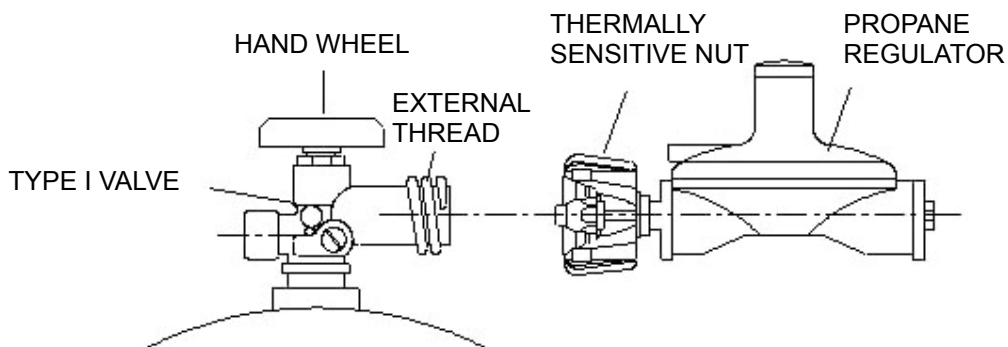

Fig. 30
**WARNING: The Type I connective coupling (see Fig. 30) supplied with your grill must not be replaced with a different type of grill/tank connection system. Removal will result in loss of warranty, gas leakage, fire and severe bodily harm.**